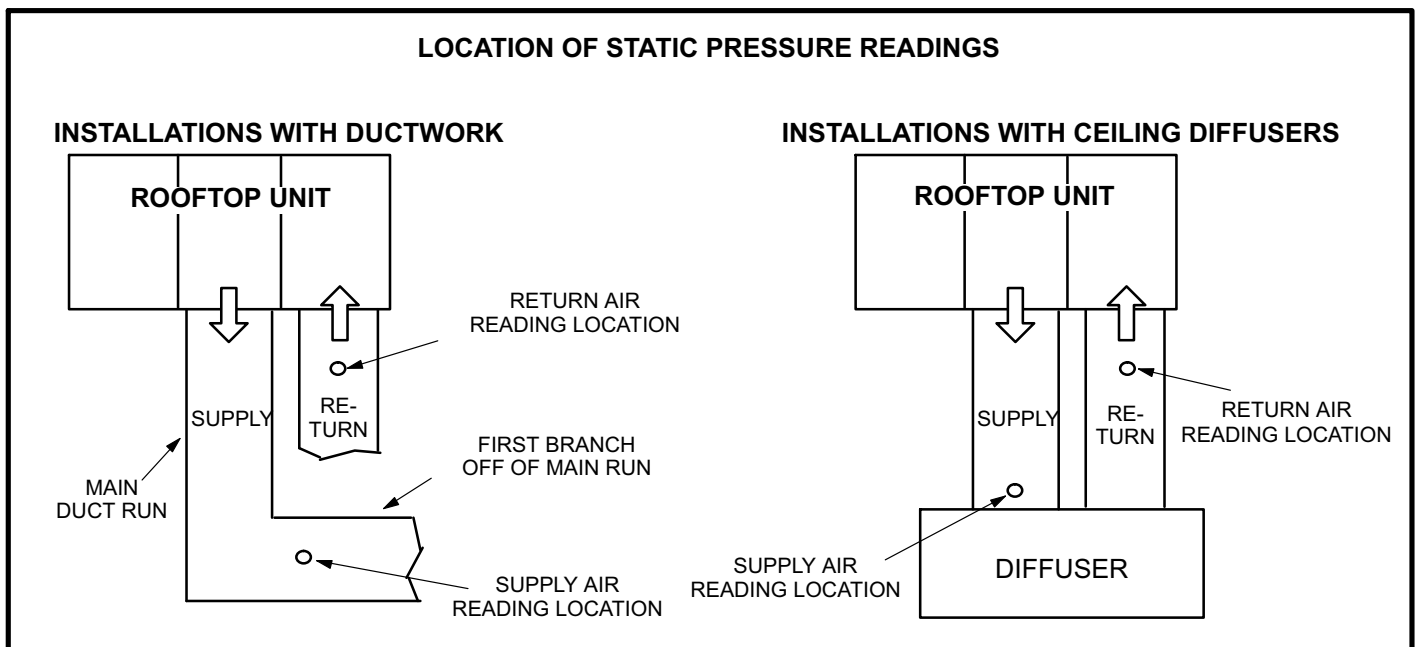

FIGURE 6
- 2- With all access panels in place, measure static pressure external to unit (from supply to return). Blower performance data is based on static pressure taken in locations shown in figure 6.